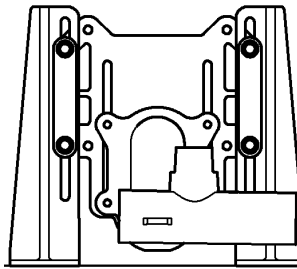

Figure 5a
- For fitting in the lowest position, see **Figure 5a**.